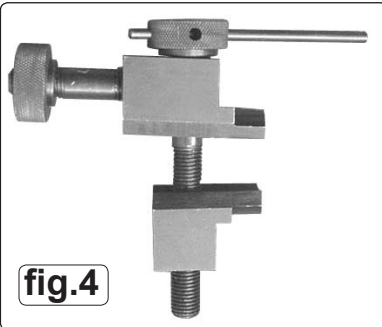

fig.4
- 5.2. There are three alternative ways of mounting the castor angle and king pin inclination gauge to a wheel. The most common method is to use one of the wheel stud brackets as shown in fig.6. Each wheel stud bracket is provided with a matching conical washer which may be needed to accommodate reduced diameter studs. The centre lock bracket shown in fig.5 is for use with centre lock wheels where the two hooks can either be attached to the spokes on the wheel or hooked around the back of the centre lock nut. The stud axle clamp shown in fig.4 allows the gauge to be attached to a central hub nut. When the appropriate clamp is in position, slide the gauge onto the spindle and secure it with the knurled nut, positioning the gauge in an approximate horizontal position. The gauge should be positioned as shown in fig.6.